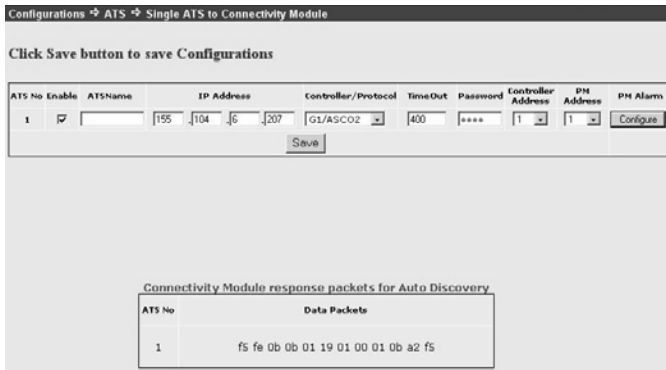

Figure 15: Auto Discover Results
- After auto discover is completed click **Show Results**. The ATS configuration is automatically filled in. Check the screen to be sure the ATS is found. If it is, proceed to step 5. See Figure 15 for an example.